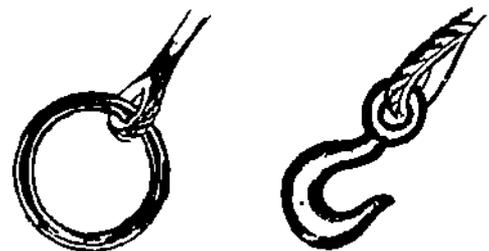

Figure 2-10. Use of a Thimble Reduces Wear
d) When a rope is spliced to a hook, ring, or pulley block, place a thimble in the eye to reduce wear and stress that would develop when the rope is bent around a small diameter, as shown in Figure 2-10.